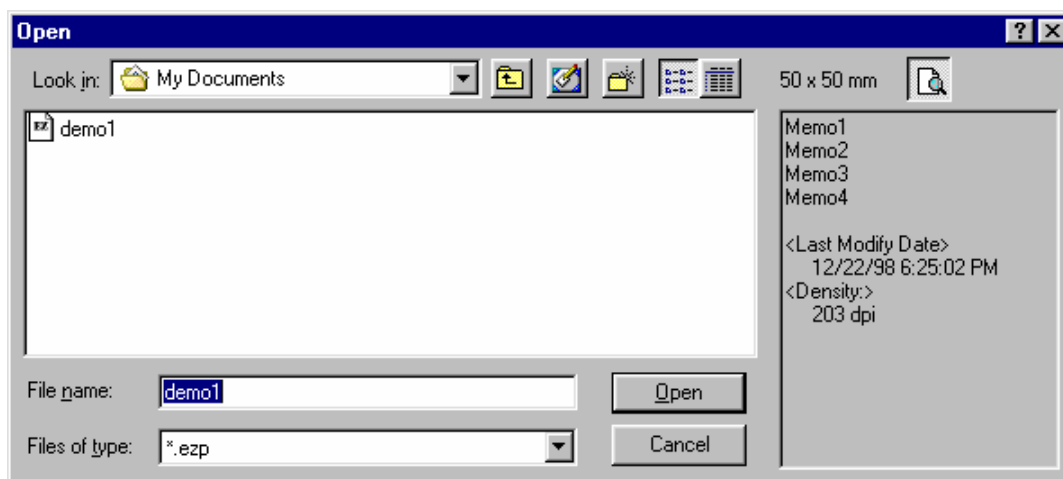

Fig.4.1
1. On the File menu, click Open. (refer to the Fig.4.1)